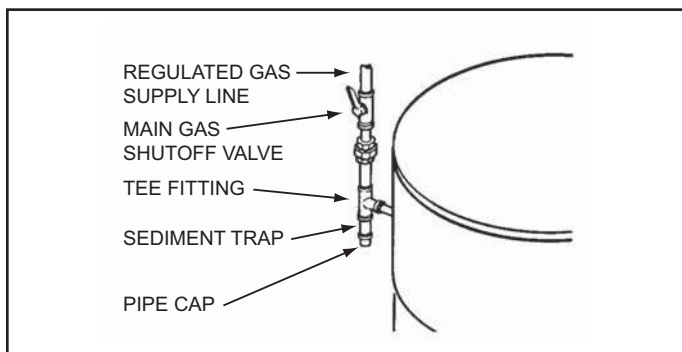

Figure 50. Supply Gas Line Installation
Ensure all gas pipe is clean on the inside before installation. To trap any dirt or foreign material in the gas supply line a sediment trap must be installed as shown in Figure 50. The sediment trap must be readily accessible and not subject to freezing conditions. Install in accordance with the recommendations of the local gas utility company.
7. Install a sediment trap as shown in Figure 50 on page 38.
8. Install a Main Gas Shutoff valve in the supply gas line as shown in Figure 50 on page 38.
1. For test pressures exceeding 1/2 psi (3.45 kPa) disconnect the water heater and its Main Gas Shutoff Valve from the gas supply piping system during testing, see Figure 50 on page